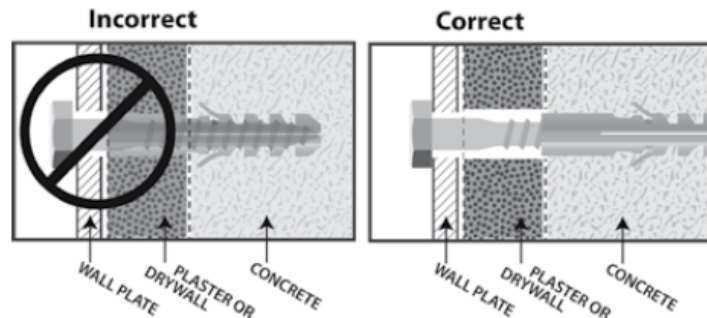

Fig. 4
- Insert one Anchor (E) into each hole so that it is flush with the concrete surface. A hammer can be used to lightly tap the anchors into place if necessary.
**Note:** If the concrete wall is covered by a layer of plaster or drywall. The wall anchor must pass completely through the outer layer to rest flush with the concrete surface (Fig. 4).